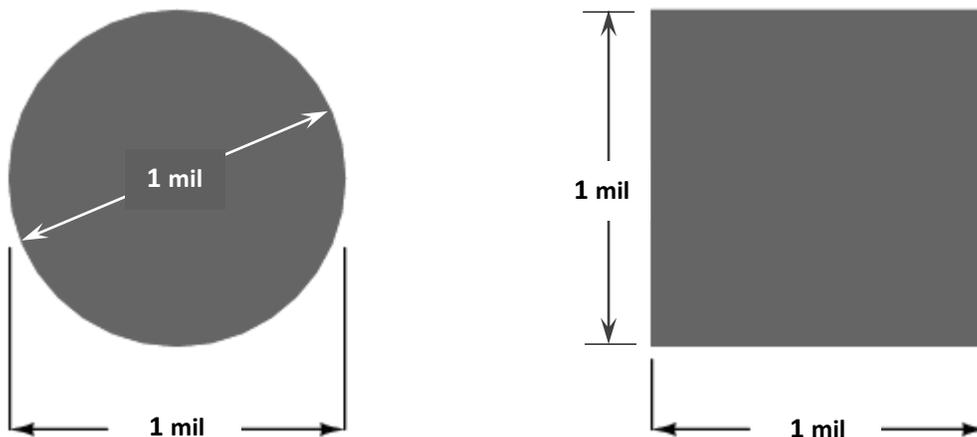

Figure 7.2: Conductor Measurements
- 7-20 For example, a wire measuring one mill (0.001 in.) in diameter has a cross-sectional area of one circular mil. The drawing on the left in Figure 7.2 shows the relationship between a mil and a circular mil.
- 7-23 The *square mil* (abbreviated *sq mil*) is a convenient unit for measuring the cross-sectional area of square and rectangular conductors. A **square mil** is defined as the area of a square measuring one mil on each side. The drawing at the right in Figure 7.2 shows the relationship between a mil and a square mil.